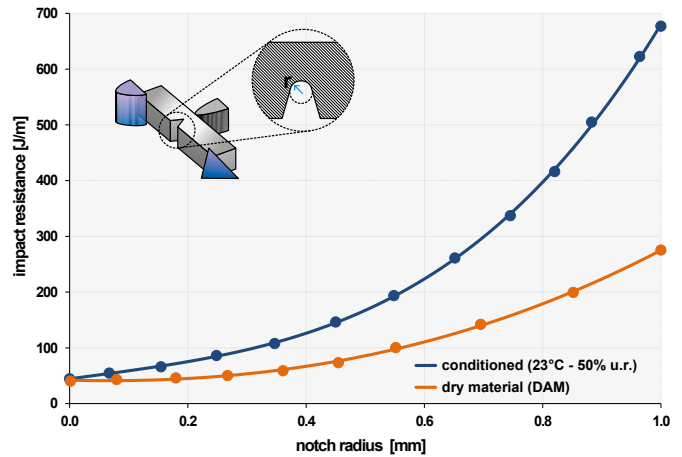

Fig. 5 - Impact resistance, polyamide 66
The graph below (fig. 5) shows how resilience of a material conditioned in air at 23°C and 50% relative humidity (RH) is greater than the same material in "dry as moulded" (DAM) conditions.